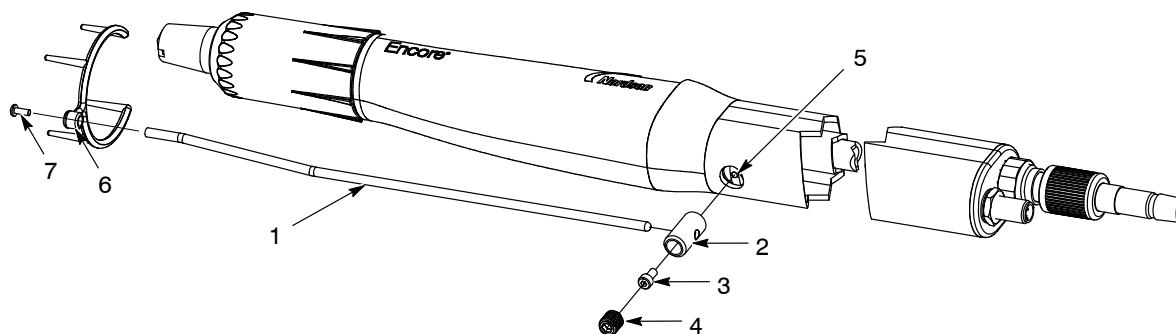

Figure 3-5 Ion Collector Installation - Tube-Mount Spray Gun
**NOTE:** The ion collector mounting hole must be installed towards the front of the spray gun as shown in Figure 3-5. If the ion collector hole is installed towards the far rear, it must be reversed to allow access to the grounding plate in the rear body assembly. If necessary, perform Steps 1 - 7 of the tube-mount disassembly procedure on page 7-2 to remove the tube, then turn it around and reassemble the spray gun.
1. See Figure 3-5. Remove the plug from the mounting hole (5) if applicable.
2. Secure the post (2) to the grounding plate with the socket-head screw (3).
3. Insert the collector rod (1) into the post and secure it with the M10 x 10 nylon-tipped set screw (4).
4. Attach the multi-point tip (6) to the collector rod with the M3 x 8 screw (7).